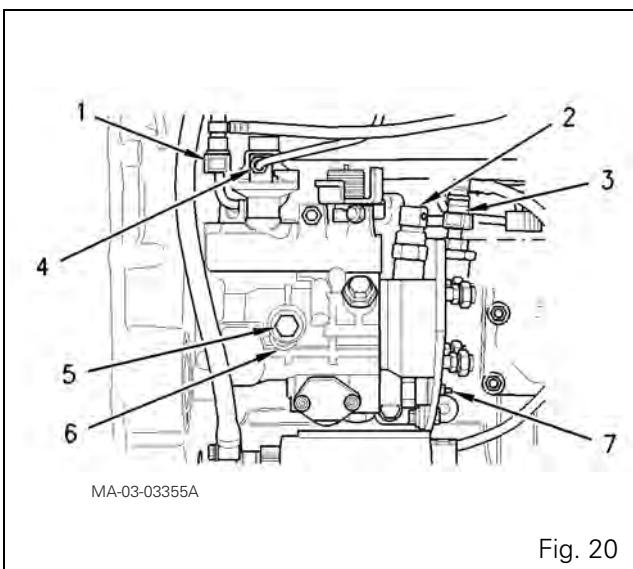

Fig. 20
103. Refit the previously removed fuel channels (1) (3) and (4) (Fig. 20).